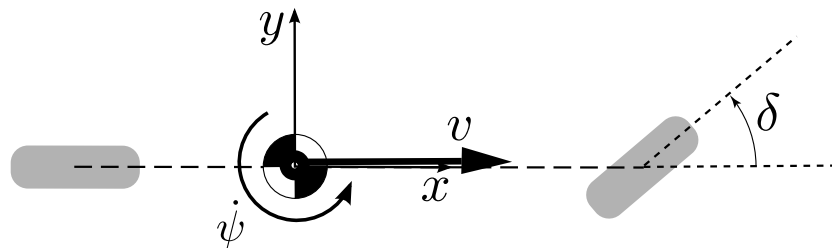

Figure 6: Bicycle model defining steering angle δ (drawn in positive direction after "ISO 8855" coordinate system \Rightarrow z up) and speed v .
- DE7.3.15 [DV ONLY] Beside RES messages (see DE7.4.8), the messages defined in Table 8 must be provided to the DL with a cycle time of 100 ms each. Steering angle δ and vehicle coordinate system is defined in figure 6.